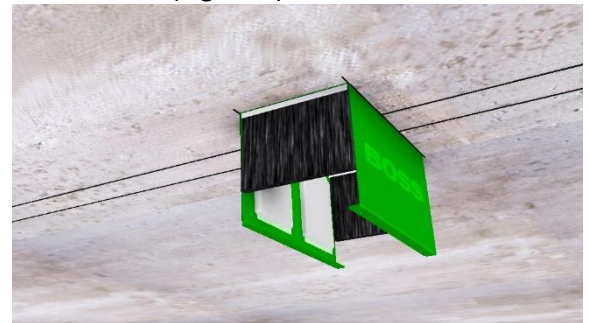

Figure 2
3. Remove the bottom lid from the BOSS FyreBox and install the body of the BOSS FyreBox onto the soffit, using suitable all-steel fasteners through the clearance holes provided in the body. Ideal fasteners are 6.5mm masonry anchors that do not contain plastics or alloys and are suitably rated for fire stopping installations. (Figure 2)